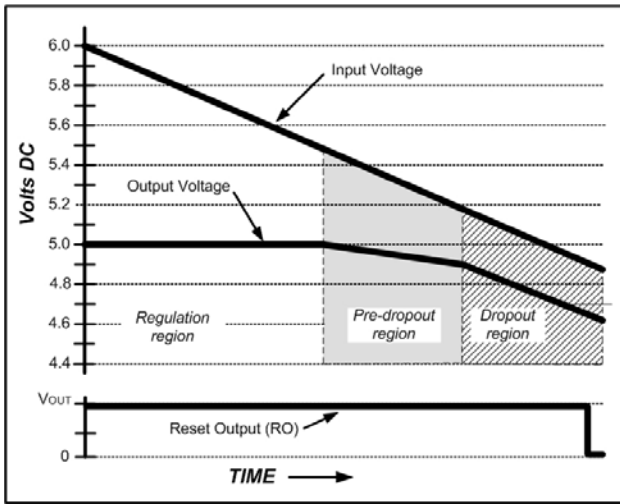

Figure 2. LDO Reaction to Decaying Input Voltage
Figure 2 represents a graphical depiction of this scenario. LDO input voltage, output voltage, and Reset output (RO) are all plotted as a function of time during an input voltage ramp down. As input voltage decays, three distinct operational regions are encountered: